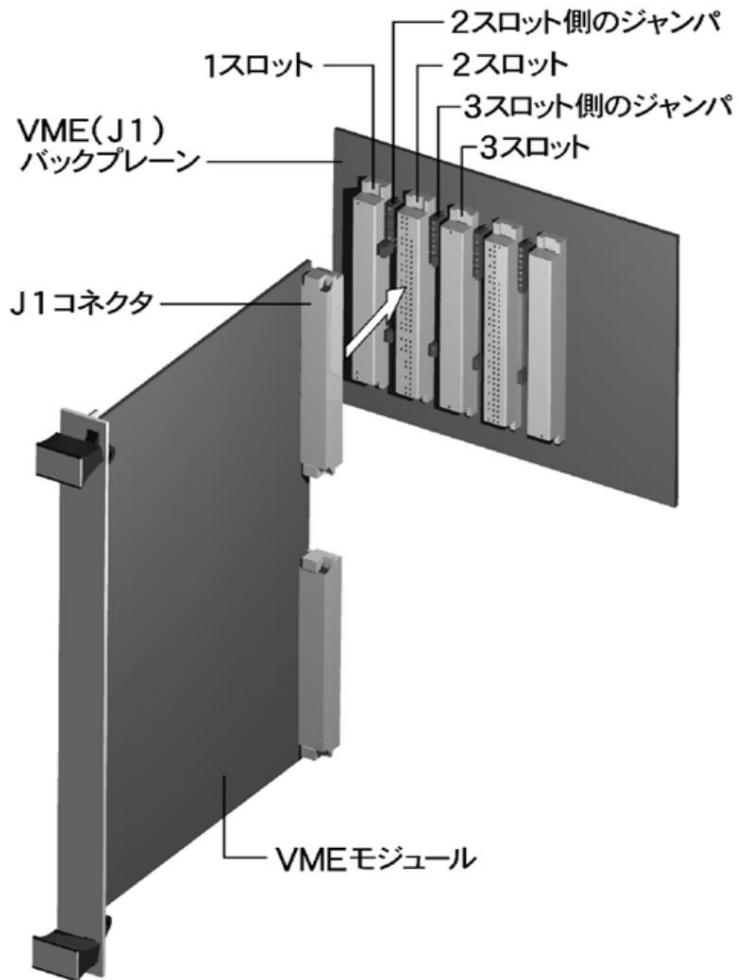
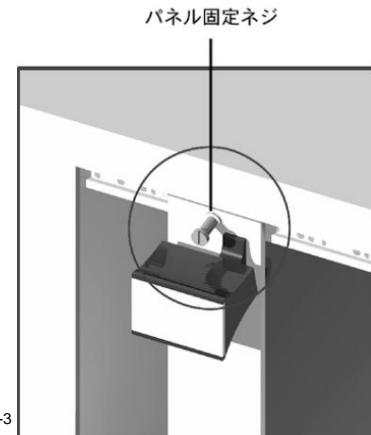
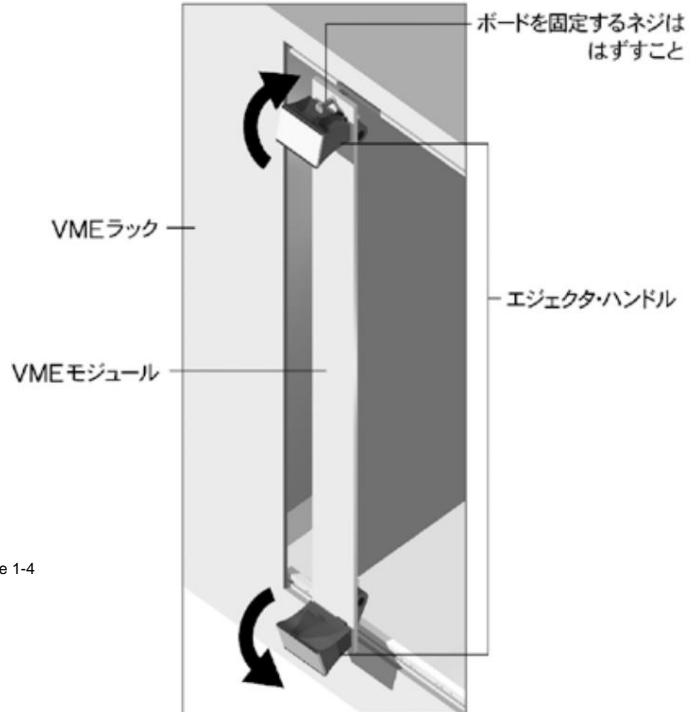

Figure 1-1
Figure 1-3
Figure 1-4
(Figure 1-1). At this time, insert it straight along the rails to avoid damaging the parts on the module. Also, push it in firmly so that the connector of the inserted module and the connector of the backplane in the rack are properly connected. (After inserting the module, securely fix it with the screws shown in Figure 1-3.)
- b) Remove the screws shown in Figure 1-3 and insert the ejector as shown in Figure 1-4.